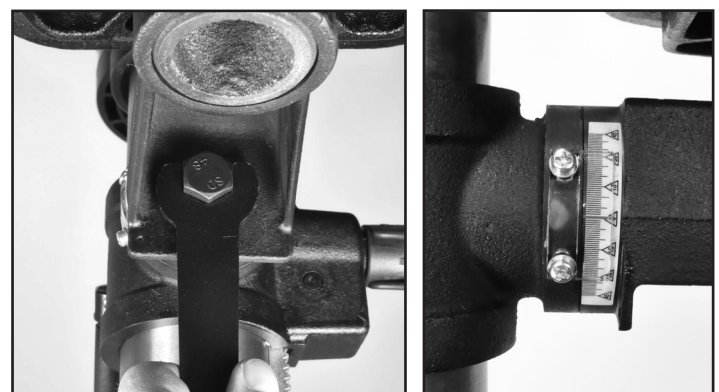

FIG. 15
5. *TO TILT THE TABLE* on an angle, the table and support arm assembly move together. Loosen the large Hex Bolt (#14) with the 19mm Special Wrench provided. FIG. 15 & 16.
6. The table and support arm can be tilted left or right. An Angle Scale (#15A) is provided on the casting to indicate the degree of tilt of the table. FIG. 15. When the desired table tilting angle is found, the large bolt needs to be tightened.